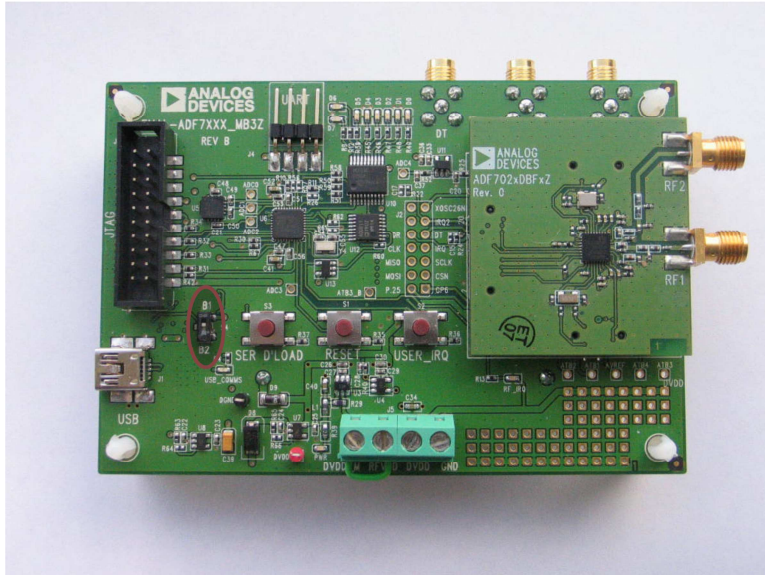
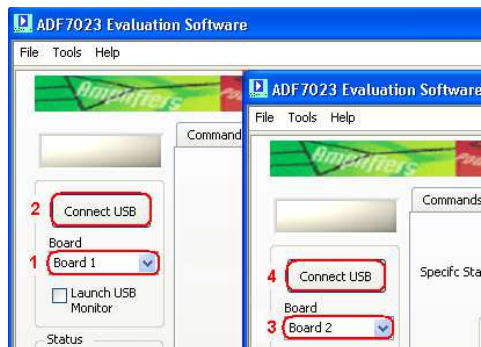

Figure 14
Figure 15
Ensure that **Switch 4** is in the correct position before connecting to the PC as shown in Figure 14.
- To set the first board as “**BOARD 1**” (Figure 15) on the Software set the switch shown in Figure 14 to “**B1**”
- To set the second board as “**BOARD 2**” (Figure 15) on the Software set the switch shown in Figure 14 to “**B2**”